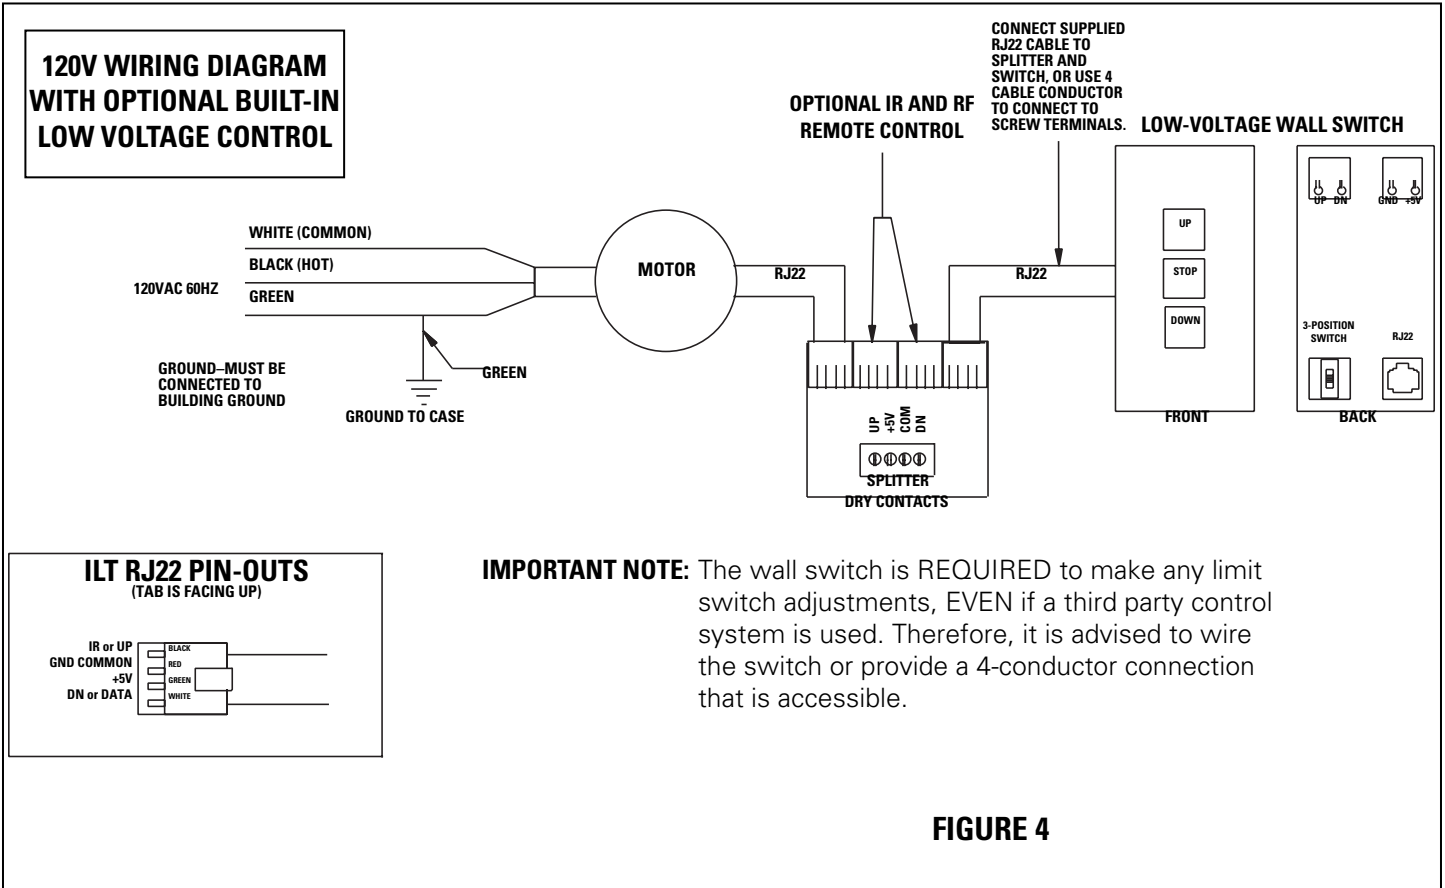
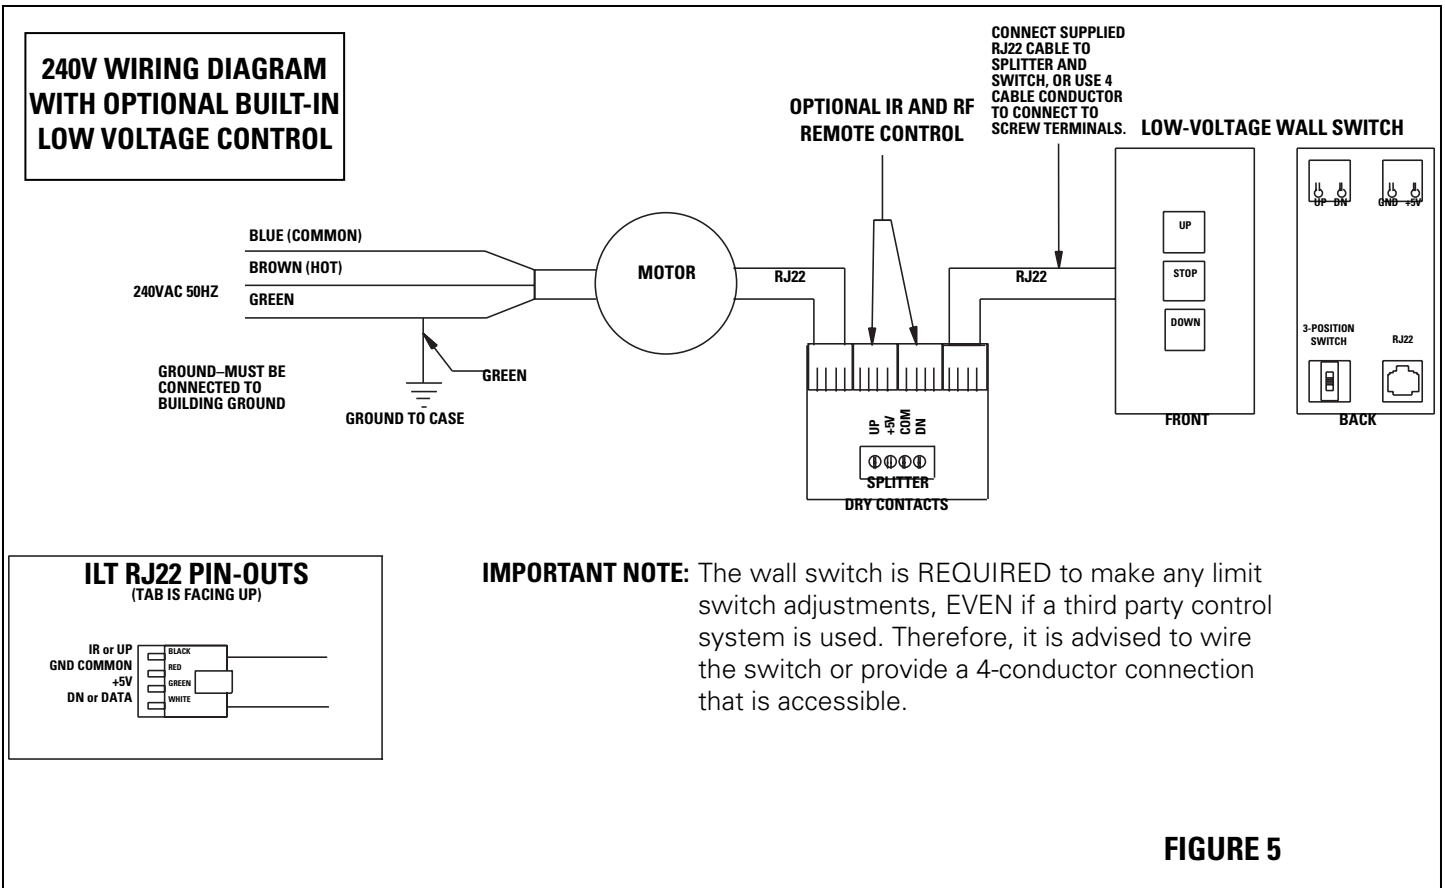

FIGURE 4
FIGURE 5
2. Locate small 3-position switch on back of wall switch. See Figure 4 for 120V screens or Figure 5 for 220/240V screens.